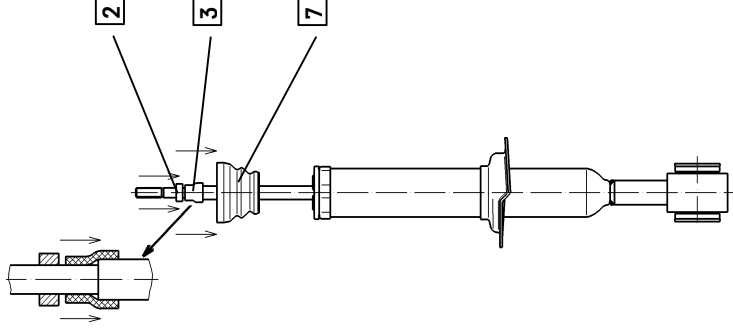

Figure 3
- G. Tap or press cap (4) onto top of shock body (refer to figure 3):
- H. Install bump stop (7) over piston rod.
- I. Install rubber sleeve (3) over piston rod. Push rubber sleeve onto chromed part of piston rod (see detail).